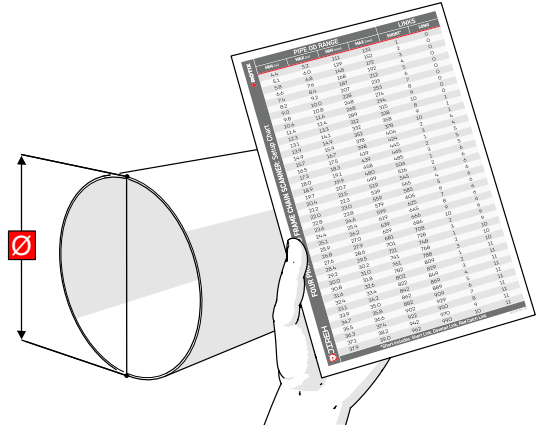

Fig. 121 - Refer to setup chart
1. Determine the diameter of the pipe or tube to be scanned. The ROTIX kit and this manual include two setup charts indicating the number of links required based on the pipe diameter or tubing (Fig. 121). Refer to the appropriate chart based on the number of probes to be used when scanning.